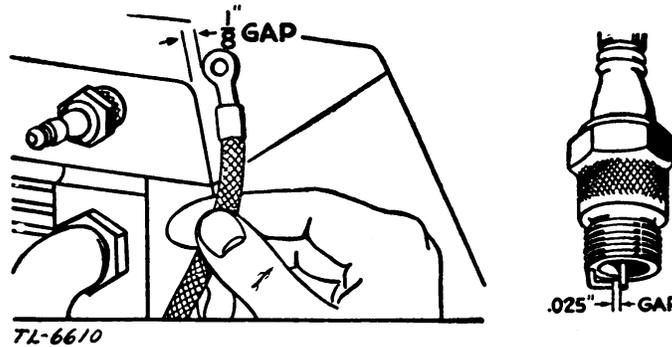

FIGURE 11. Checking spark and spark plug.
ignition system, with the exception of the spark plug, is operating satisfactorily (fig. 11). If no spark occurs, check the spark plug, the spark plug cable, contact points, and capacitor, in the order named.
b. Spark plugs. Spark plugs should be cleaned and the points reset to 0.025 inch after each 50 hours of operation (fig. 11). After 100 hours, the plugs should be replaced. Points gradually burn away in service. If the porcelain is cracked or broken, the plug may not fire. Water on the outside of the spark plug may permit the high-voltage current to leak over the surface of the porcelain. Dirt or carbon will produce the same effect. The spark plug can be cleaned by washing with gasoline. Points should be scraped or sandpapered. If a plug is damaged or broken, replace it with a new one. When replacing the spark plug in the cylinder head, grease the threads lightly. Do not get grease on the points. The spark plug